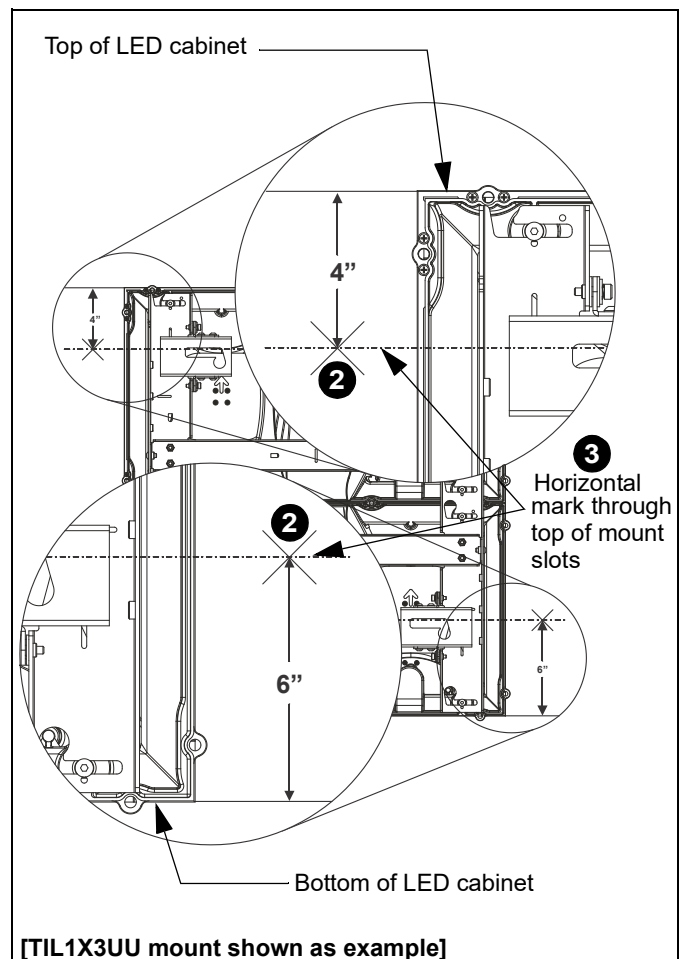

Figure 5
2. Make a mark 4" **below** the planned top edge (or 6" **above** the planned lower edge of the LED wall. (See Figure 5)
NOTE: This line will be located at the top of the mounting slots across the width of the LED video wall. The oversize mounting slots will allow some upward adjustment as needed. (See Figure 5)